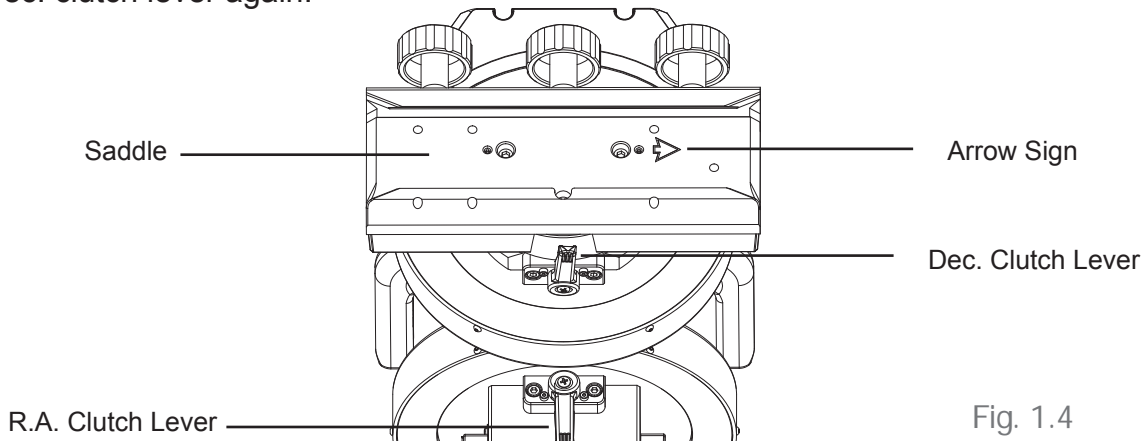

Fig. 1.4
- The R.A. axis is secured by tightening the R.A. Clutch Lever. (Fig. 1.4)
2. Release the Dec. clutch lever (Fig 1.4) and rotate the Dec. axis until the three knobs on the saddle are facing upward and the dovetail groove is leveled (Fig 1.4). Tighten the Dec. clutch lever again.
4. While holding the telescope horizontally, seat or slide the dovetail bar of the telescope into the groove of the saddle. The telescope should point in the direction of the arrow sign on the saddle (Fig 1.4).